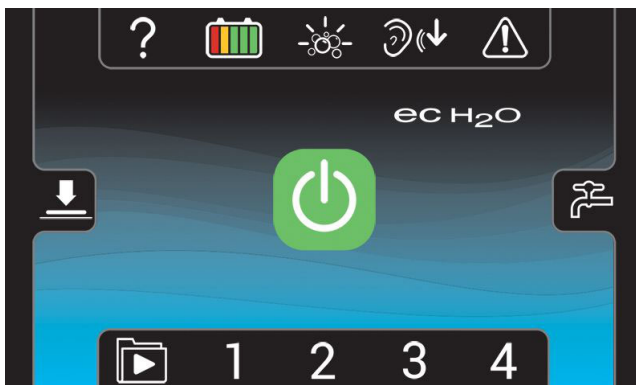

FIG. 41
**Operator Mode home screen** restricts access to the machine settings button and maximum scrub speed button (Figure 41).